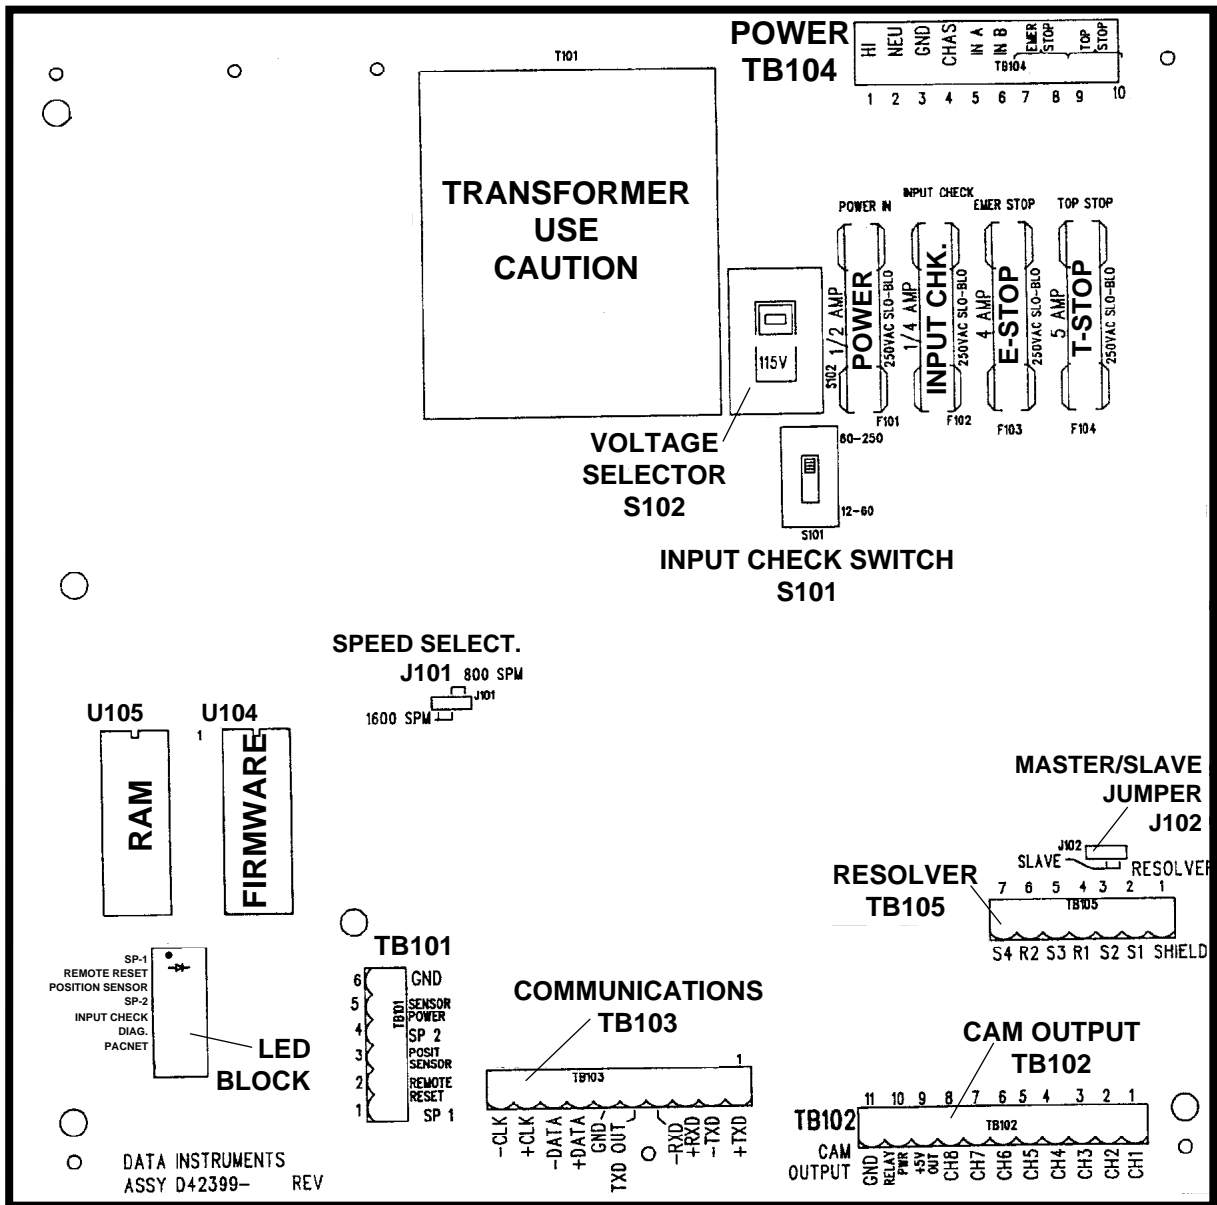

Figure 2-1. Location of components on ProCam 1500 processor board
3. Locate the firmware chip located at U104 on the ProCam 1500 processor board (refer to Figure 2-1). Notice that this firmware chip has a label on it.
2. Locate terminal TB103 on the ProCam 1500 processor board (see Figure 2-1). There may be a plastic plug at pin 5. If so, remove it from TB103. Also find the RS-232 port on your feed. Refer to your feed manual if necessary.